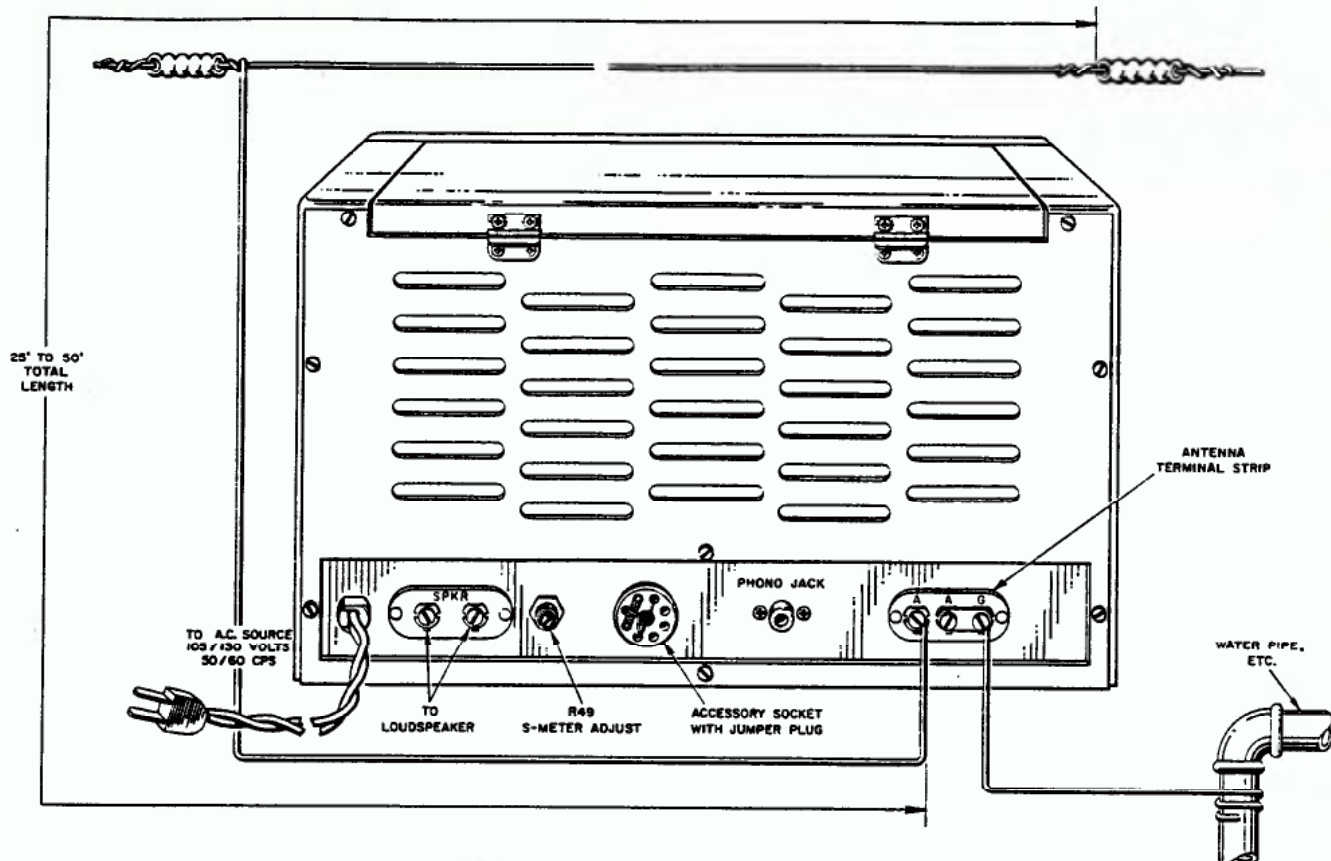

Figure 1. Typical Installation Plan
2. Referring to Figure 1, locate the antenna terminal strip at the rear of the cabinet. Connections to this terminal strip are made by loosening the screw to be used and then wrapping the wire around the screw and tightening with a screwdriver so that the wire is held securely. The method to use in connecting the antenna to the receiver is as follows:
a. Single-Wire Type—The lead-in wire is connected to the left hand A terminal on the antenna terminal strip and the other A terminal is connected to the G terminal by means of the metal link provided (see Figure 1).
The NC-98 is equipped with a phono jack (see Figure 1) which will accommodate a standard phono tip plug so that a record player not equipped with an amplifier may be operated through the audio circuits of the receiver. If the record player has other than a standard phono tip plug, the correct fitting can be readily installed. The NC-98 has a high-impedance phono input circuit and is suitable for use with crystal pickups. Variable reluctance type cartridges cannot be used both because their output is too low without an additional amplifier and special compensation is required for correct tonal reproduction.